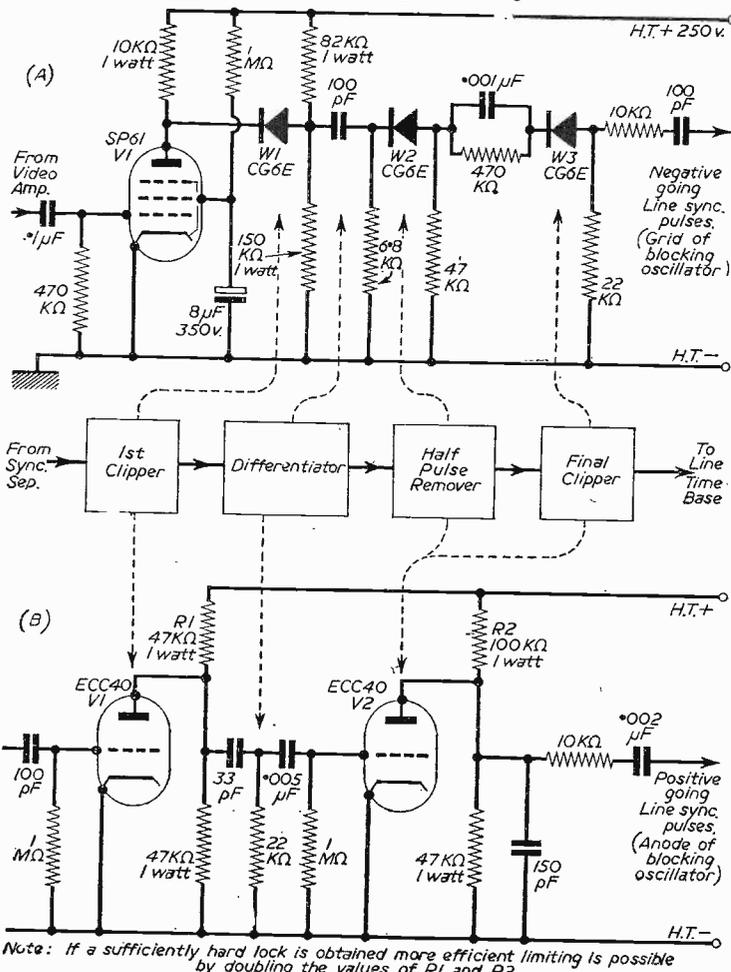

Fig. 2.—Two methods of line-pulse shaping.
The line sync pulse can also be much improved after the sync separator by adopting the technique shown in Fig. 2 (A) and (B). Basically both these circuits work on the principle that better results should be obtained by removing from the sync pulse all that is not wanted, and improving what is left.